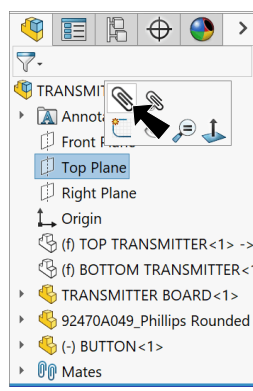

Fig. 13
Step 1. Click **Top Plane**  in the Feature Manager and **Mate**  on the context toolbar, **Fig. 13**.